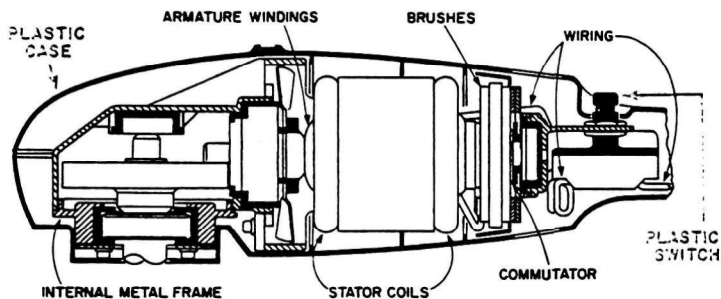

Fig. 7-11. A double-insulated tool.
7.45 Some double-insulated tools have plastic housings similar to the plastic case of the portable sander in Fig. 7-11. Tools with metal exteriors are double-insulated with a plastic inner liner which surrounds and isolates any metal parts that might become energized if functional insulation fails. In addition, the housings of switches or controls are made of nonconductive materials and the tool shaft or arbor is fitted with an insulating sleeve.